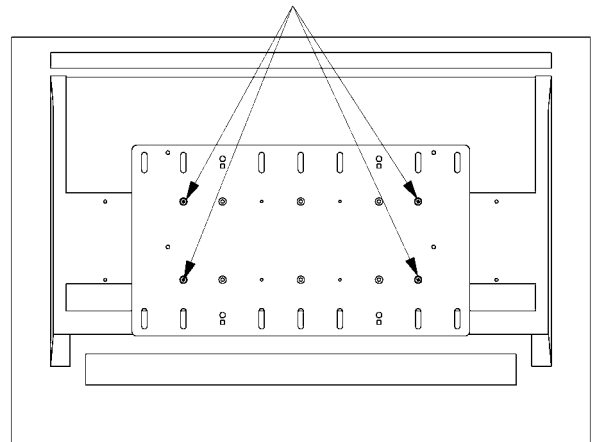

Figure 11. Display with 300mm x 100mm Hole Pattern
1. Select four flat head M4 screws (80) from Bag A and four spacers (150) from Bag C.
2. Attach the interface bracket (20) using the hole-pattern on the back of your display as shown in Figure 11.